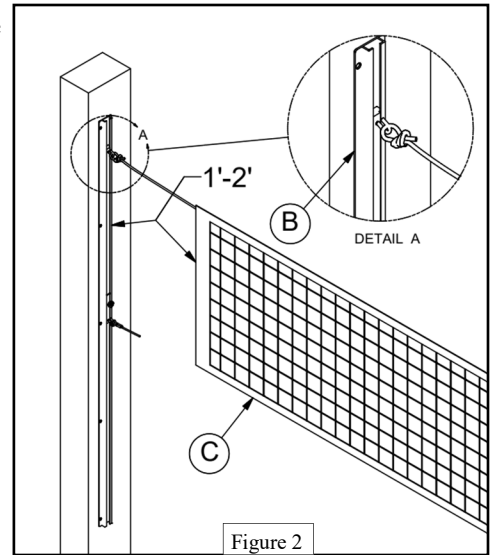

Figure 2
3. Once the SVB50W Tracks (A) and (B) are securely attached to walls or posts, uncoil approximately 24" of the web strap from the winch to allow for net tensioning.
4. Remove the VB1250KU Net (C) from the box and tie an overhand knot on one end of the top rope creating a loop. Note: There may be a factory tied knot already on your net.
5. Attach the loop in #4 above to the hook on the top of the SVB50W Non-Winch Track (B). See Figure 2.
6. Slide the net along the top rope until the end of the net is 1' to 2' from the SVB50W Non-Winch Track (B). The top rope will have excess length on the opposite end to allow for wider location of the posts or wall mounting locations. Don't cut off any excess top rope at this point. See Figure 2.